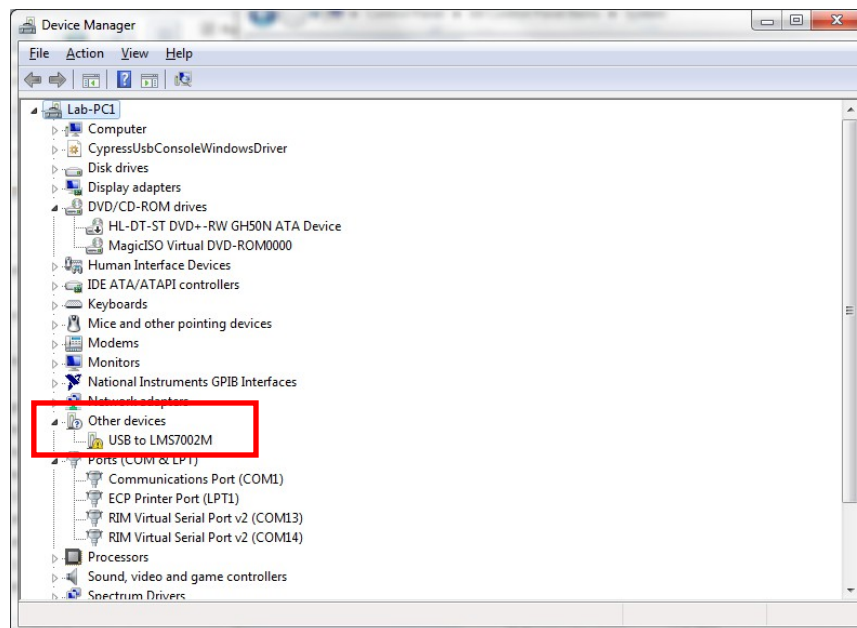

Figure 41 Device Manager content
3. Locate **USB to LMS7002M** under **Other devices** and press right click to select **Properties**, see Figure 41.